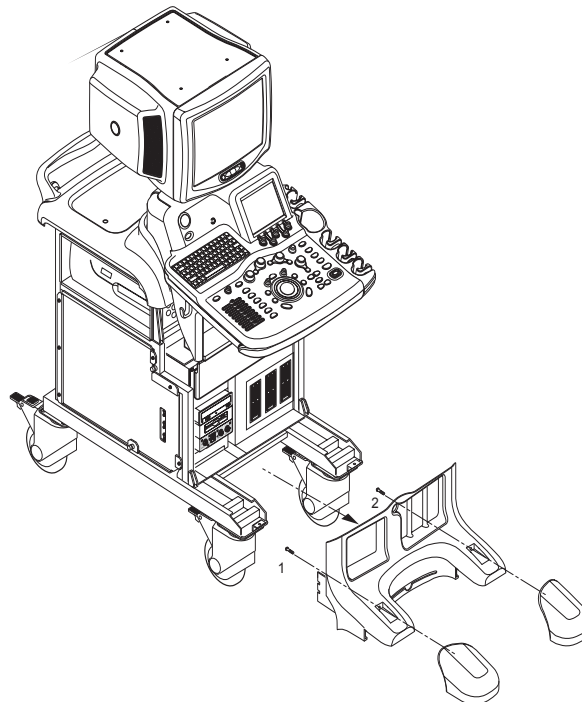

Figure 8-86 Removing the Bumper Set
- 6.) Remove the Bumper Set. Refer to Figure 8-86 on page 8-65 .